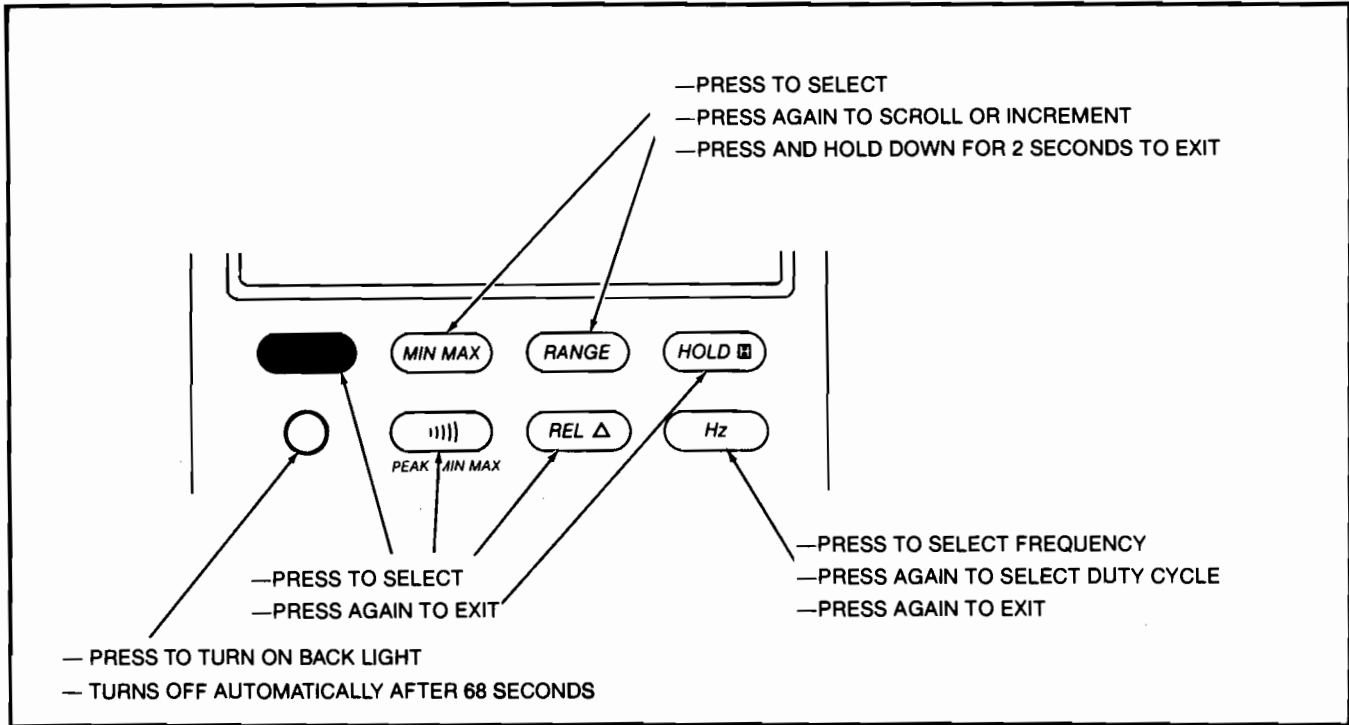

Figure 2. Summary of Pushbutton Operations
3. To select an additional operation, press the appropriate pushbuttons above the rotary switch as described in the items below. (See also, Figure 2)
Items 6-13 describe how to use the pushbuttons. These buttons are used (in conjunction with rotary switch) to select operating modes and set power-on options. When a button is pushed the beeper sounds (unless the beeper has been turned off or the Data Output mode has been selected). A summary of pushbutton operations is shown in Figure 2. An annunciator is displayed to indicate that a mode or option has been selected. A quick way to reset all the pushbuttons to their default state is to turn the rotary switch to an adjacent function and then back to the function you are using.